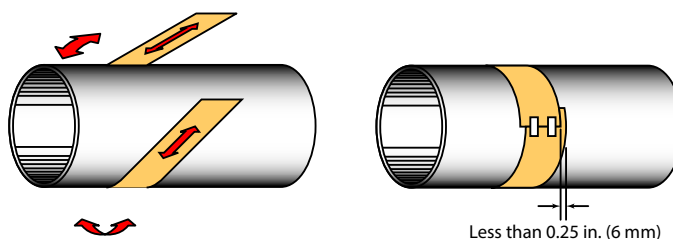

Figure 15: Paper template alignment
1. Wrap the paper around the pipe as shown in *Figure 15*. Align the paper ends to within 0.25 in. (6 mm).